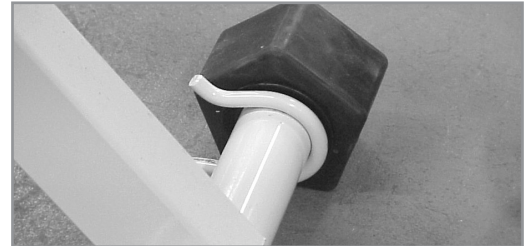

Figure 8
2. Tap into place with a rubber mallet or press firmly with the sole of your shoe until it locks into place as shown (Figure 8).